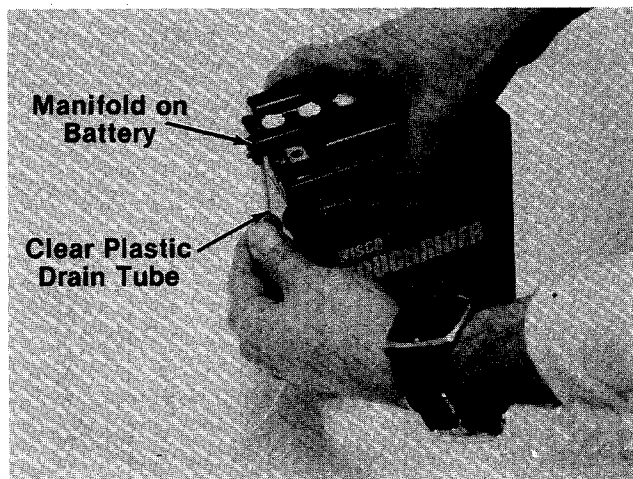

FIGURE 14.
3. Place one end of clear plastic drain tube on manifold of battery. See figure 14.